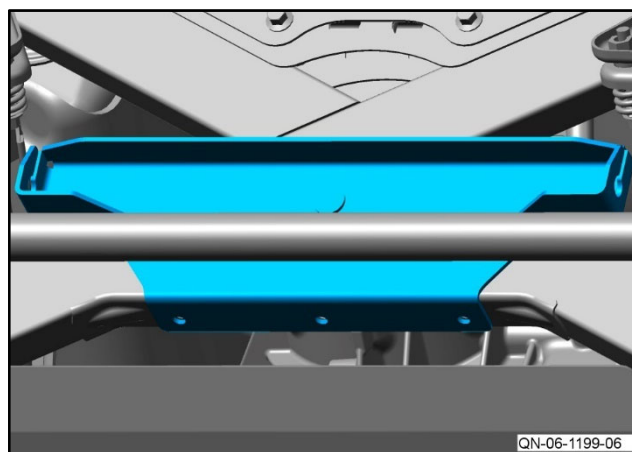

Figure 9
- 10 Remove the park brake bracket (refer to Figure 9).